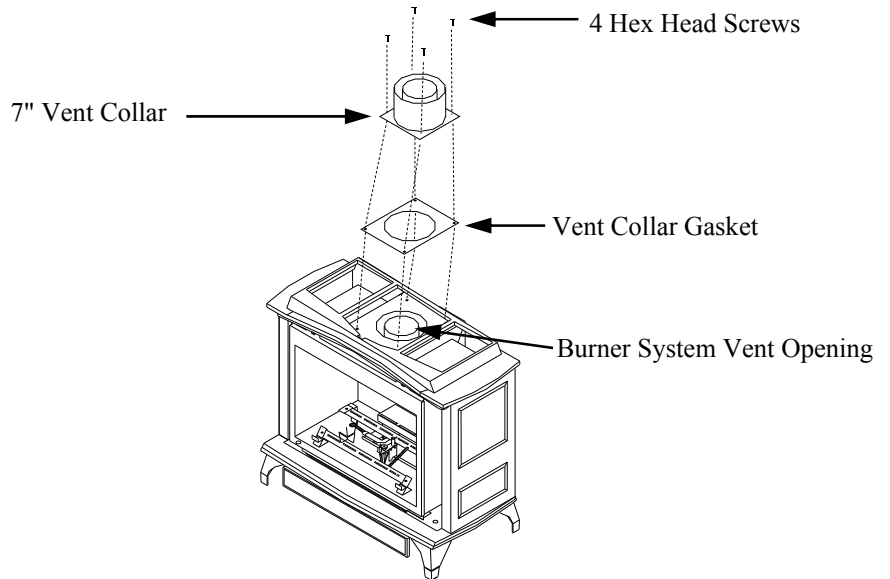

Figure 15– Installing Vent Collar
4. Place the vent gasket on the outside of the burner system box over the vent hole and align the holes(see figure 15).
5. Place the 7" vent collar over the gasket and align the holes(see figure 15).